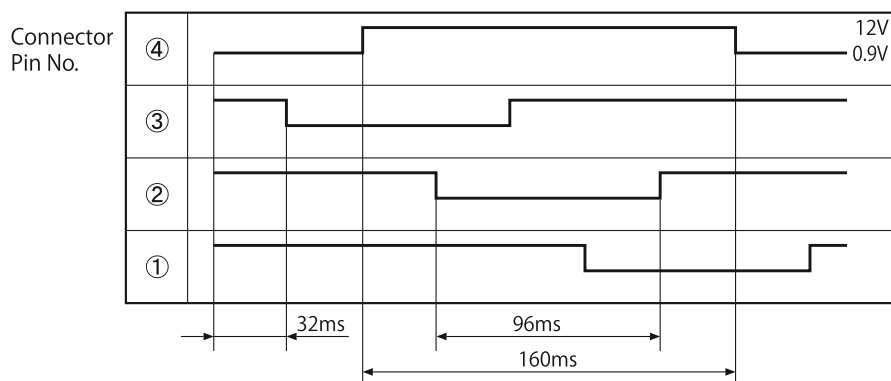

Fig. 5-2
- The relationship between the switching direction of the current phase and the open/close direction of the valves is shown in the following table. When current is applied, approximately 0.9V passes through pins ①-④ of CN15, CN19, and CN26; when no current is applied, it is approximately 12V. When the power is reset, the expansion valve is initialized for approximately 35 seconds. During initialization, use a tester to measure pins ①-④ on CN15, CN19, and CN26. If there is a pin that does not change at approximately 0.9V or 12V, there is an abnormality in that expansion valve or the main microcomputer.
- The logic waveform for when an expansion valve operates is shown in Fig. 5-2.